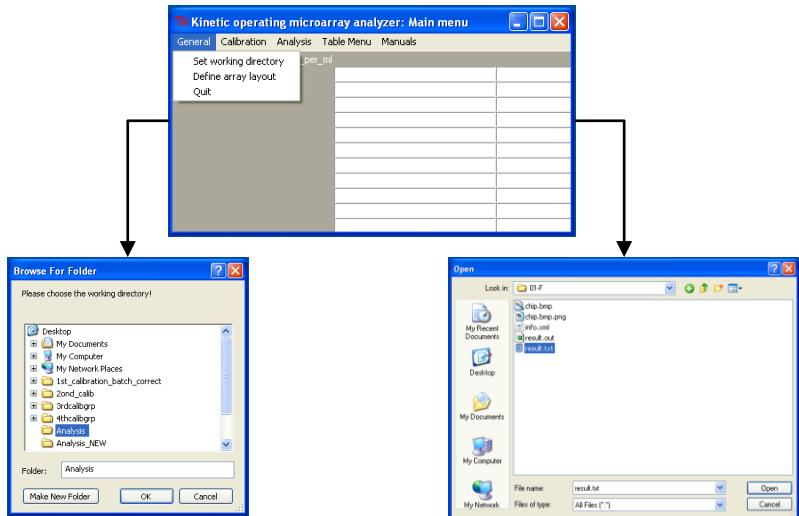

Figure 4. Designation of working directory and array layout definition.
2. For layout definition, go to “General” → “Define array layout” and browse for any *result.txt* raw data file, which corresponds to the layout of interest (**Fig. 4**).